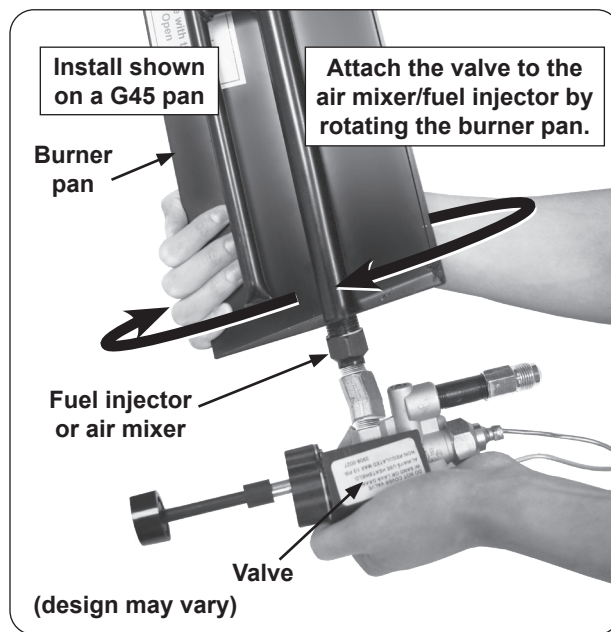

Fig. 6-2 Install valve
2. Install the valve to the fuel injector or air mixer by screwing the pan into the valve (Fig. 6-2). Take care not to damage the attached pilot assembly when rotating the burner pan. Be sure all connections are tight, however do not overtighten to prevent damage to the valve.